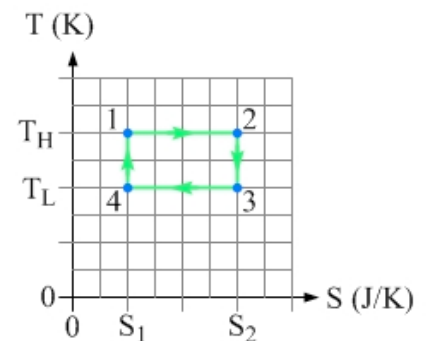

Figure 15.34: T-S (temperature-entropy) diagram for the Carnot cycle.
58. Return to the description of the Carnot cycle in Section 15-8. The P-V diagram for the Carnot cycle can be hard to follow, because none of the processes is a straight line. Let's consider the T-S (temperature-entropy) diagram for the Carnot cycle instead, shown in Figure 15.34. For the Carnot cycle, the T-S diagram is a rectangle. (a) The area under the curve on a P-V diagram represents the work done by the gas. What does the area under the curve represent on the T-S diagram? (b) The area of the region enclosed by a cycle on a P-V diagram represents the net work done by the gas in one cycle. What does the area of the region enclosed by a cycle on the T-S diagram represent?